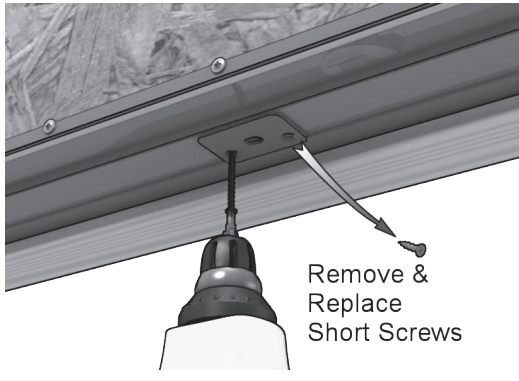

Figure 13
**1m) (Required- French Inswing & Outswing Only)** Remove the screws from the head plate, and replace them with the #8 x 3" screws provided. (figure 13, French outswing door shown) For Outswing, refer to the next step before installing the plate with the longer screws.